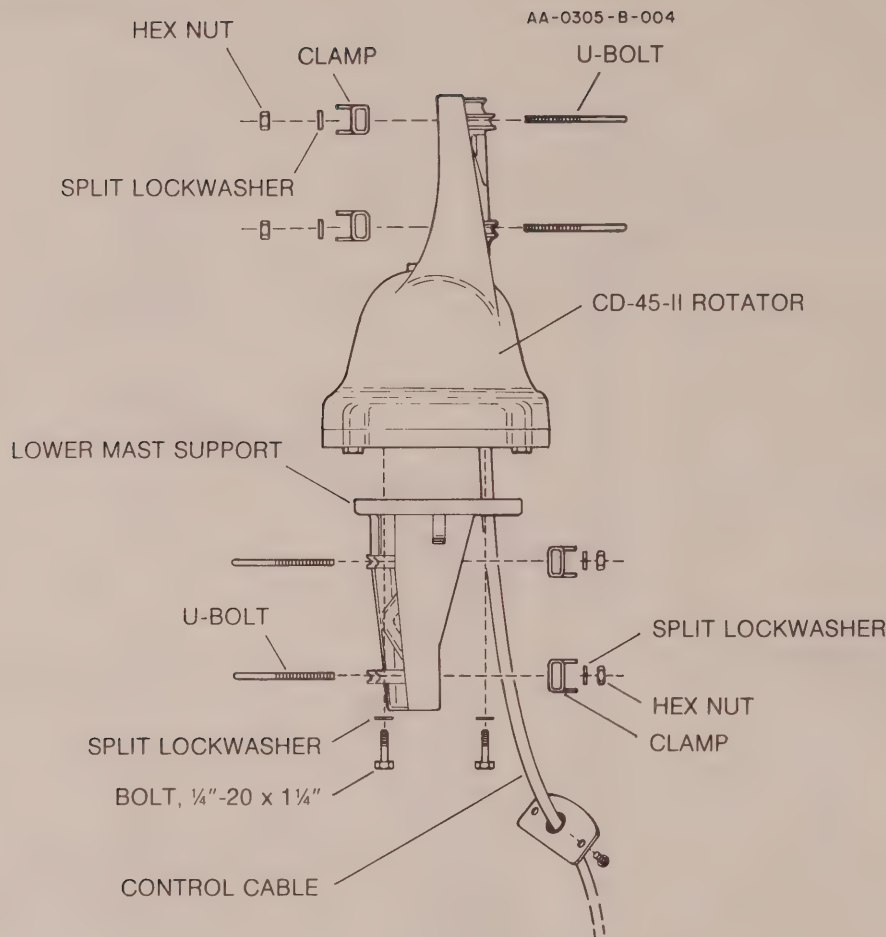

Figure 6
2. Attach one end of the control cable to the rotator terminals. Use the same sequence as used on the pre-installation check. The cover and grommet must be slipped over the cable prior to attaching it to the terminals on the rotator. (See Figure 6.)